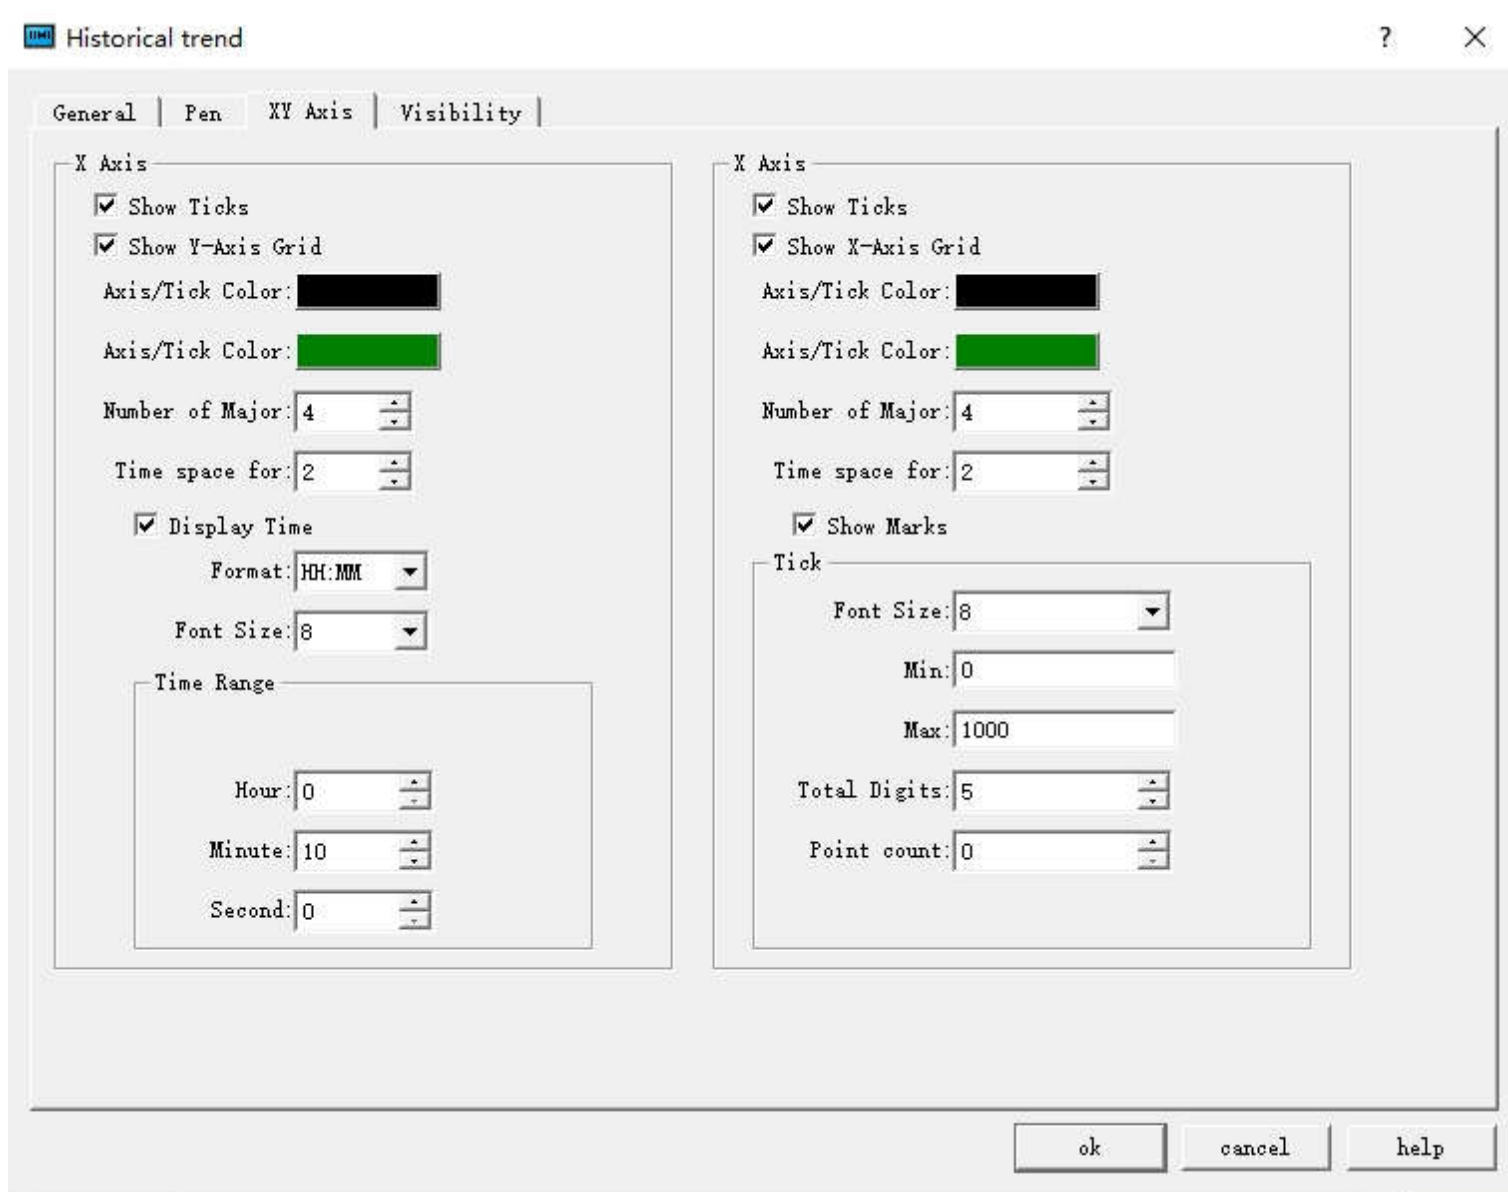

Figure 4-50 XY Axis tab of Historical Trend
3. The "XY Axis" page of the historical trend chart is shown in Figure 4-50.